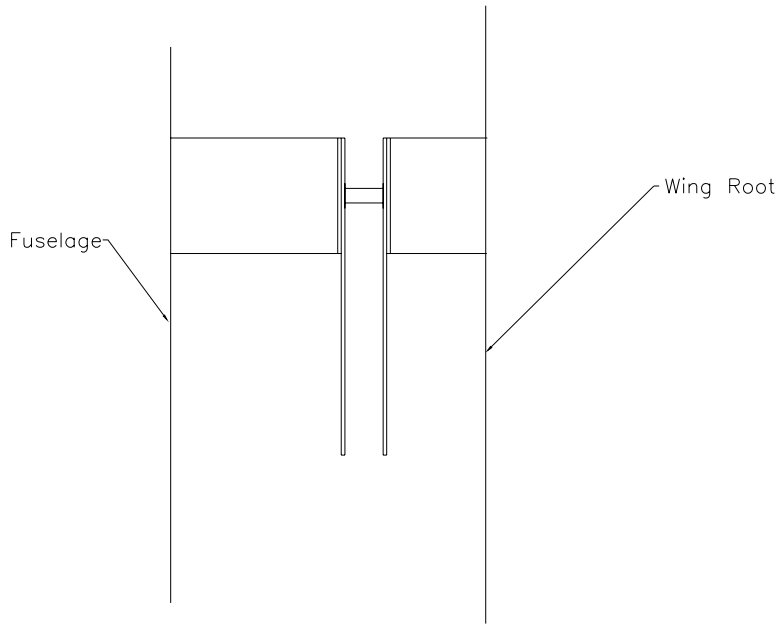

Figure 20.6.6
15) Attach the wings. Ensure the bolt in the fuselage torque tube slides into the end plug of the wing torque tube. Figure 20.6.6.